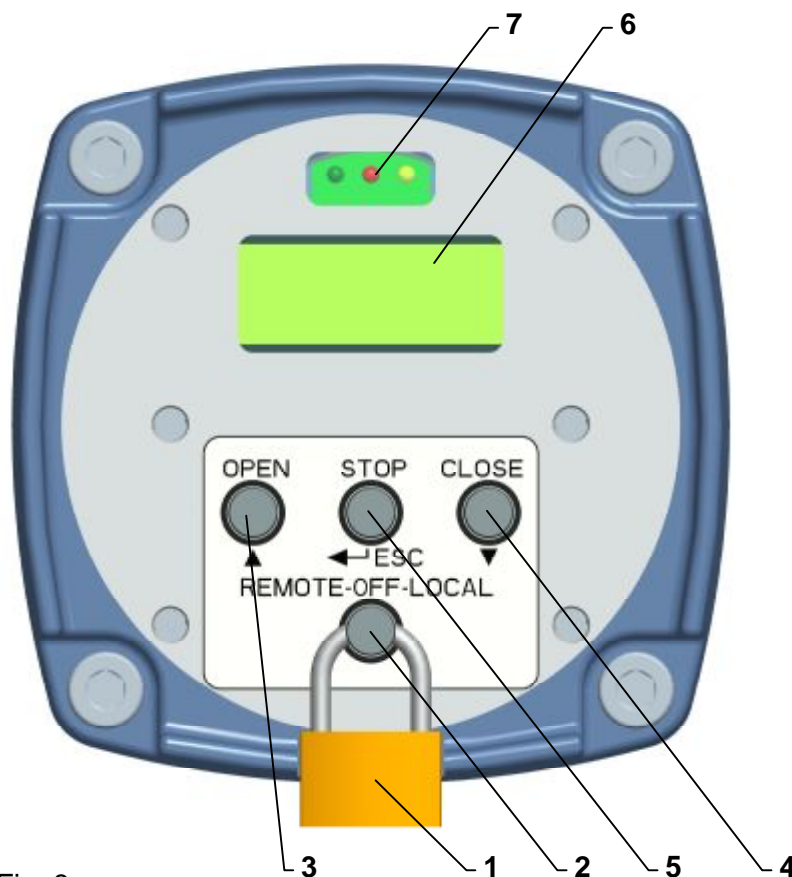

Fig. 8
**Electric local control:** - additional equipment (Fig.8)
The EA electronics makes possible to identify some failures of the electric actuator. The control unit blinking LED ERROR indicates the failure (**Fig. 7**) or the error is displayed on the LED (**see Fig. 1**), or the LCD display (**see Fig. 8**). The list of errors and warnings and the way for identifying a given error as well are presented in the separate attachment No 74 1053 02.